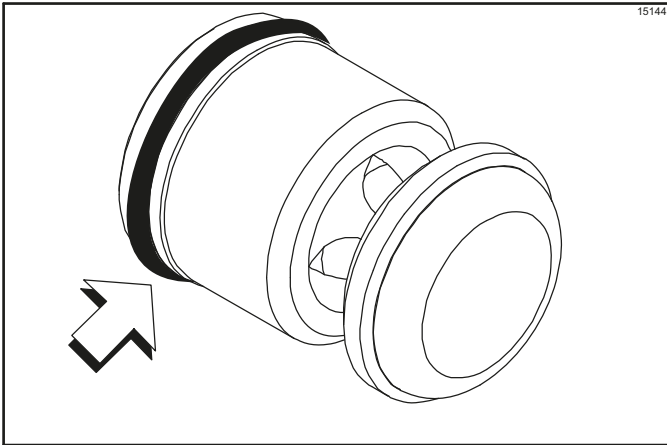

Figure 6-21
2. Assemble the piston. Slide the red O-ring into the groove of the piston. **Do not** lubricate the O-ring. (See Figure 6-21.)